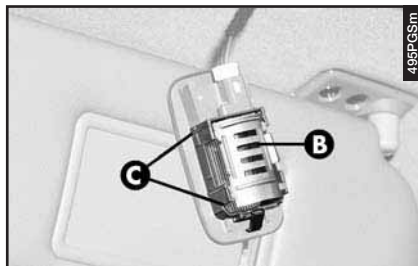

fig. 74
– Remove the screen (**B-fig. 74**) releasing it from the catches (**C-fig. 74**)
– Refit the screen (**B-fig. 74**) inserting it correctly between the catches (**C-fig. 74**).